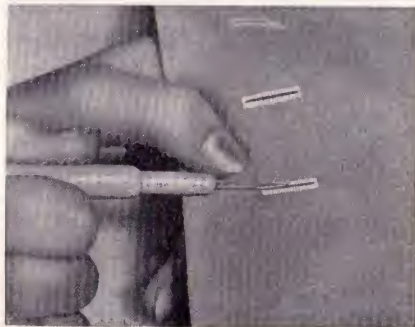

Fig. 22.
10. Carefully cut the material between the two rows of stitches with the buttonhole cutter (S 15399, inside front cover) which is included among the attachments (Fig. 22).